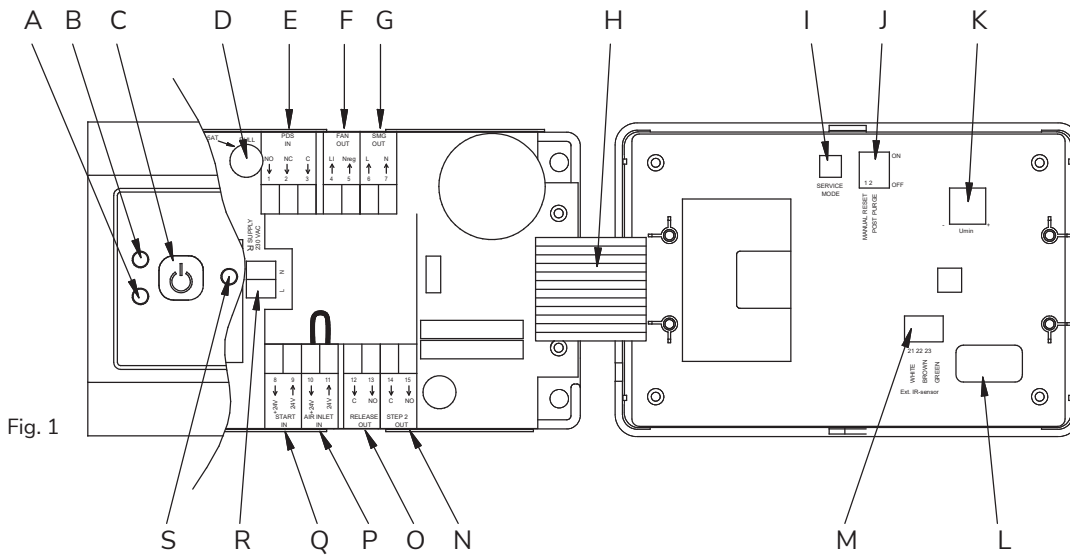

Fig. 1
Check the factory-set DIP switch setting before commissioning (Fig. 1-J)
- Press ON/OFF button (Fig. 1-C).
- Press the service mode button (Fig. 1-I) on the back of the cover.
Alarm LED (Fig. 1-A) will flash RED, and the operating LED (Fig. 1-B) will flash according to the position of the pressure switch – see the table below.
- The potentiometer (Fig. 1-K) is set to maximum by turning clockwise.
- Slowly increase the pressure switch setting until it cuts out (you will hear a click) or until the operating LED (Fig. 1-B) changes from GREEN to RED.
- Press ON/OFF button (Fig. 1-C). Service mode is now deactivated.